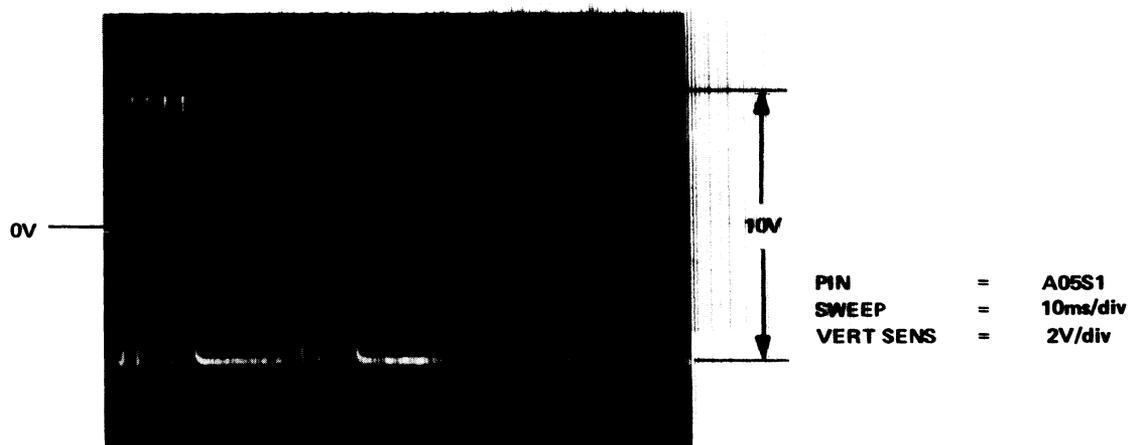

Figure 5-16 Cosine Amplitude/Offset Waveform
- b. Observe A05S1 (COS POSITION) for a scope display as shown in Figure 5-16. The waveform amplitude must be 10 ± 1 V peak-to-peak, and symmetrical about ground.